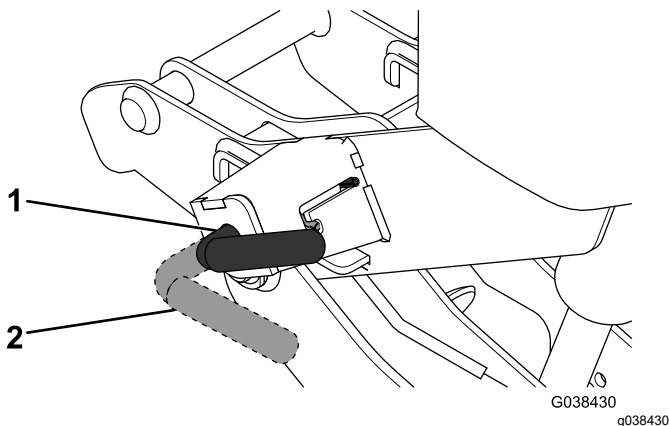

Figure 14
8. Ensure that both coupler spring pins have fully engaged the coupler (Figure 14).
4. Turn the levers on the couplers to the ATTACH position (Figure 14).